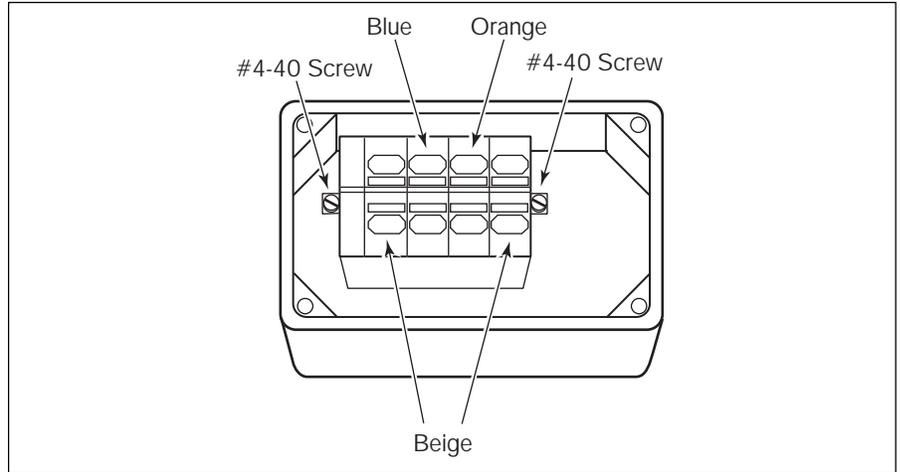

Figure 9
The optional terminal block (Fig. 9) is included when the EQ2/U is ordered as a CE compliant unit. Refer to the terminal box mounting instructions included with the terminal box and the following steps for CE compliant applications only.
- 1 Attach the terminal box to the motor according to the mounting instructions included with the terminal box. See Fig. 9.
- 2 Assemble the terminal block components to produce an assembly having the following order: support block, beige middle, blue middle block, orange block and beige end block. See Fig. 9.